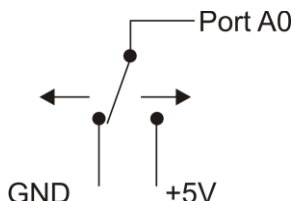

Figure 6. Schematic showing switch detection by digital channel Port A0
When configured for input, you can use the USB-DIO24H/37 digital I/O terminals to detect the state of any TTL level input. Refer to the schematic shown in Figure 6. If you set the switch to the +5 V input, Port A0 reads TRUE (1). If you move the switch to GND, Port A0 reads FALSE.